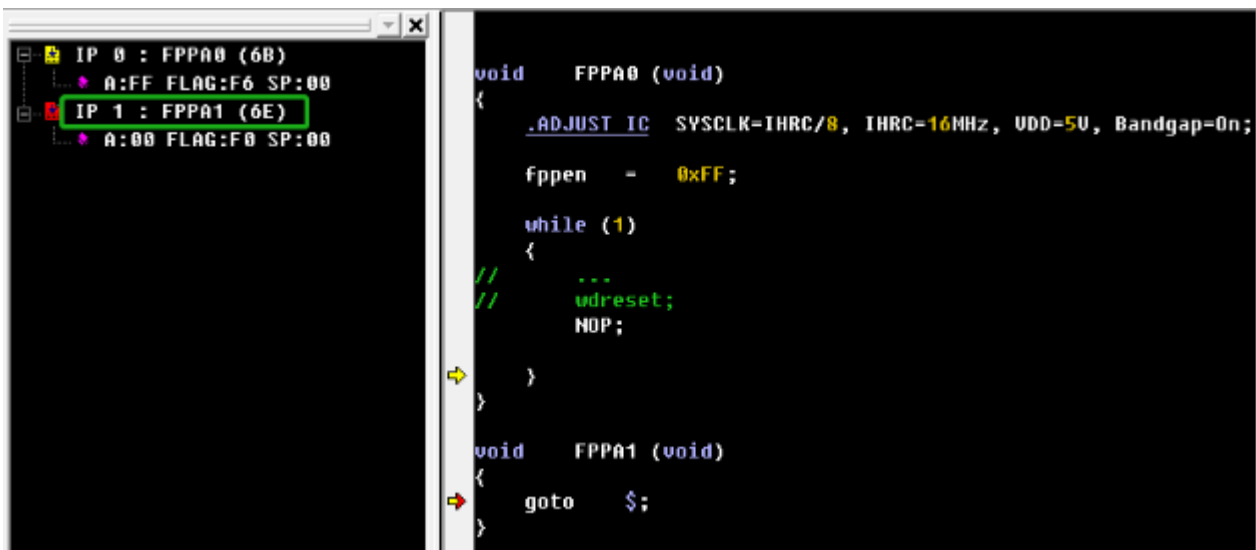
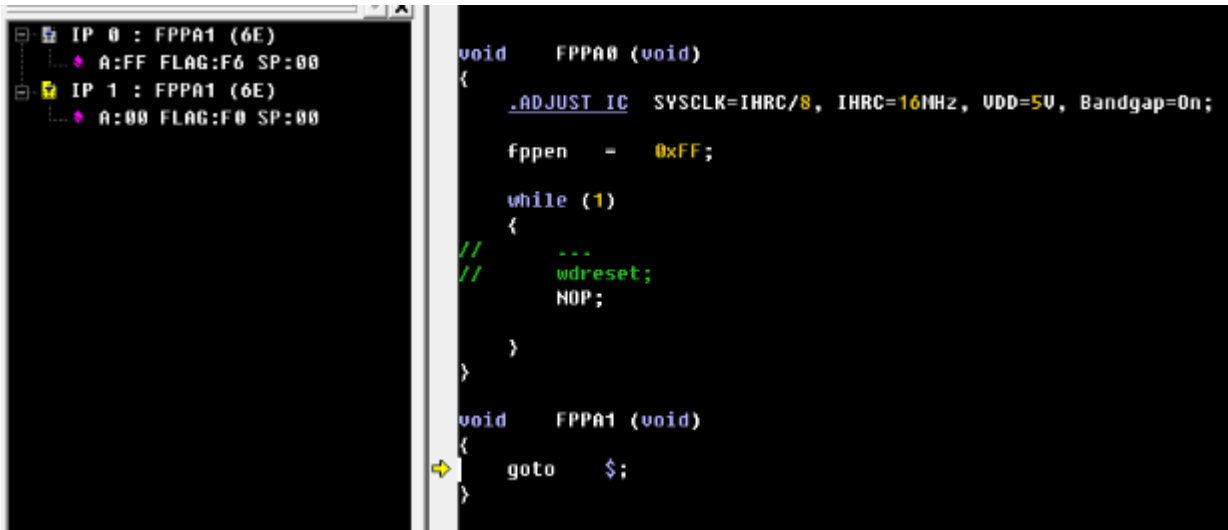

Fig.4-14. The information of switching FPPA in Single Trap mode
Fig.4-15. Information after switching FPPA
- In Single Trap mode, you can only monitor one FPPA at a time. If you want to switch the FPPA to the other, just double click it, as shown in figure 4-14.
The explanation of figure 4-14: IP 0 is the FPPA that be executed (the position where  stopped in), IP 1 is the other FPPA that will be executed next time (the position where  stopped in). Click **Single**(F11) based on the current state to monitor IP 1. As shown in figure 4-15.